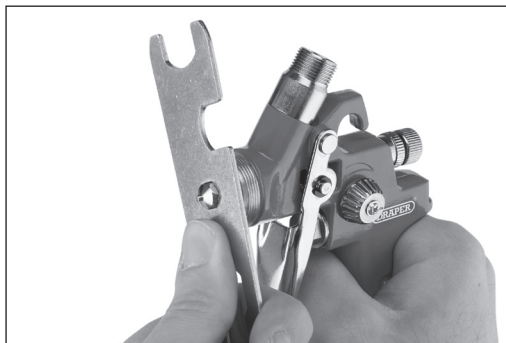

Fig. 16
- b. Use the M12 spanner (F1) (1.4mm) or the M5 ring spanner (F2) / (G3) (0.8mm) to remove the nozzle head (20) (Fig. 16).
- d. Clean around the outside of the air cap and nozzle head using the parts brush (H).
- e. Clean the interior of the nozzle head using the pick-up tube brush (I).